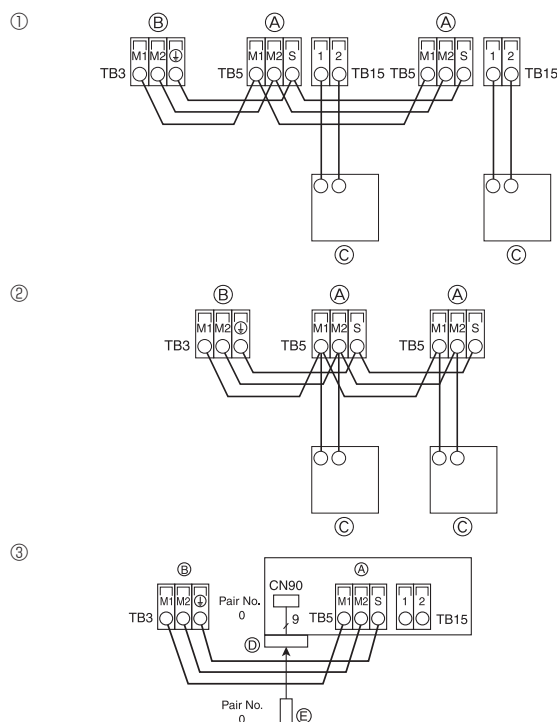
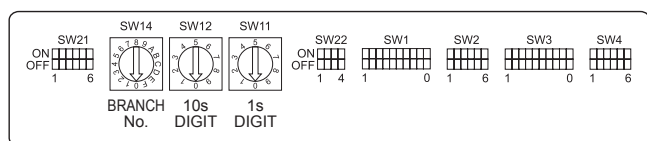

Fig. 4-8
Fig. 4-9
4.4. Connecting remote controller, indoor and outdoor transmission cables (Fig. 4-8)
- ① MA Remote controller
- ② M-NET Remote controller
- ③ Wireless remote controller (When installing wireless signal receiver)
4.5. Setting addresses (Fig. 4-9)